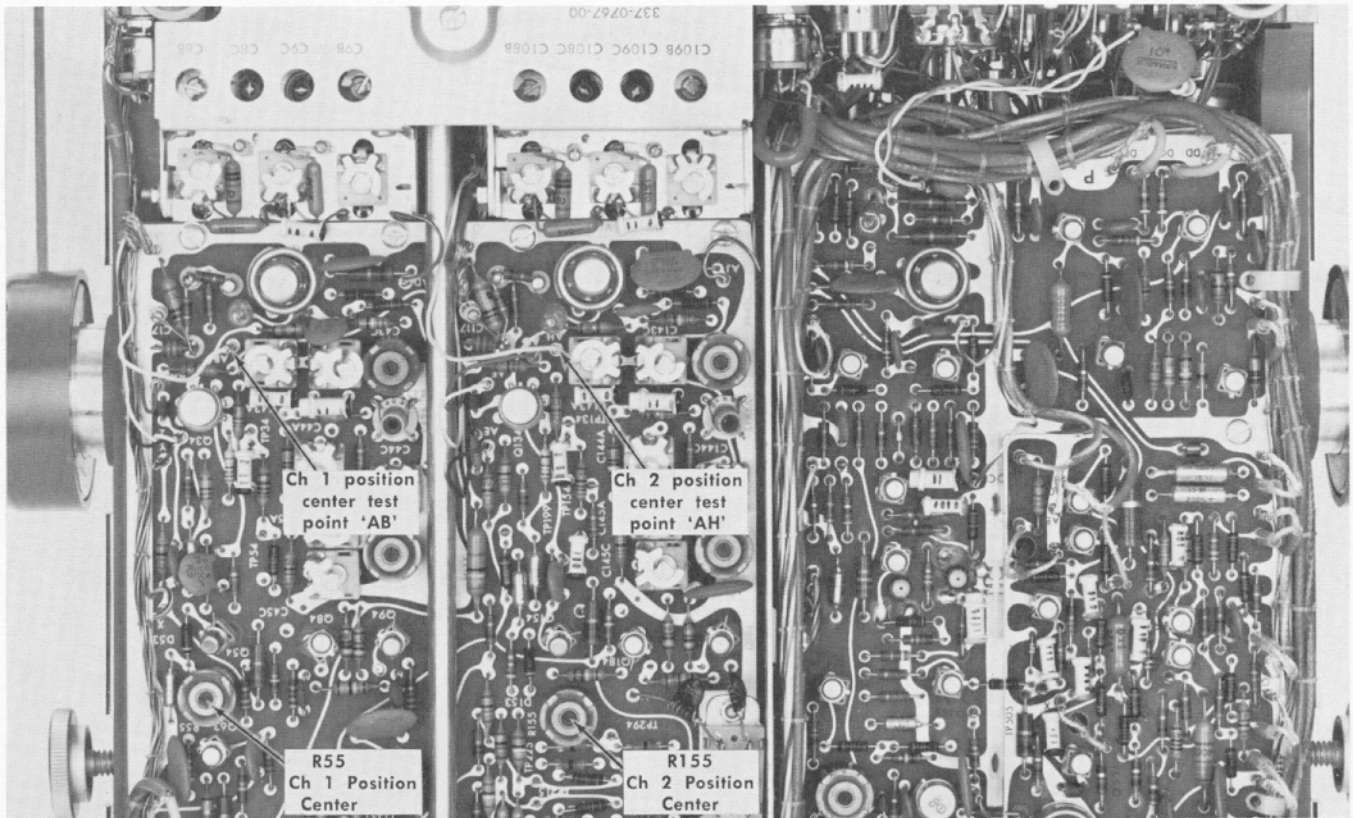

Fig. 6-19. Location of Channel 1 and 2 position center test points and adjustments (Vertical Preamp board).
13. Adjust Channel 1 and 2 Position Center ①
- a. Connect the dc voltmeter to the Ch 2 position center test point (pin connector 'AH') on the Vertical Preamp board (see Fig. 6-19).
- d. Adjust—Ch 2 Position Center adjustment, R155 (see Fig. 6-19), to position the trace to the centerline.
- f. Connect the dc voltmeter to the Ch 1 position center test point (pin connector 'AB') on the Vertical Preamp board (see Fig. 6-19).
- i. Adjust—Ch 1 Position Center adjustment, R55 (see Fig. 6-19), to position the trace to the centerline.